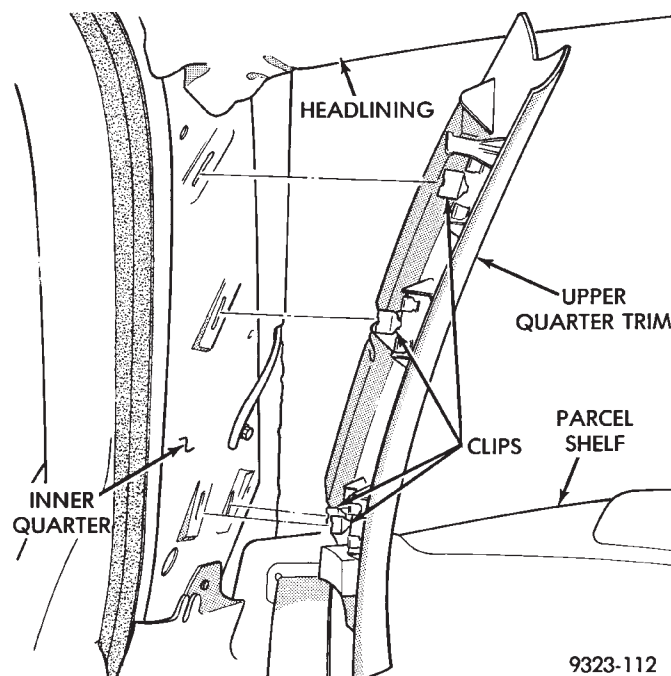

Fig. 59 Upper Quarter Trim
- (1) Disengage clips holding upper quarter trim to inner quarter panel (Fig. 59).
- (2) Separate upper quarter trim from vehicle.